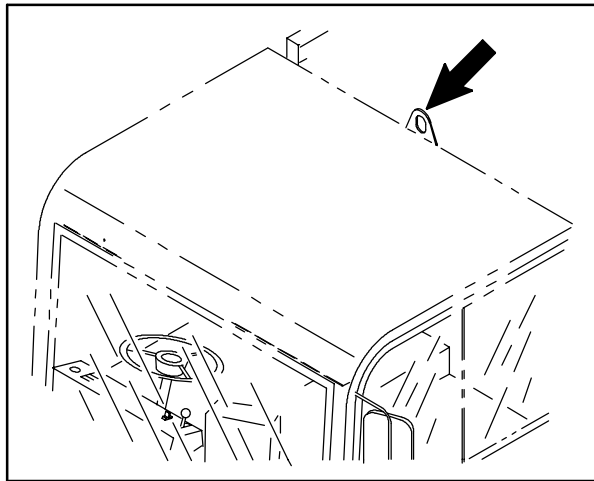

FIG. 3
1. Hook the overhead hoist chain to the lug located on the cab. Refer to Fig. 3.